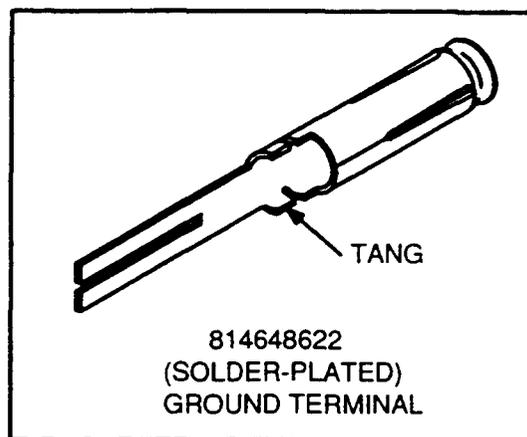

Figure 16. Ground Terminal (P-46D862)
- 4.09** To remove the 814648622 (P-46D862) ground terminal (Figure 16), proceed as follows: